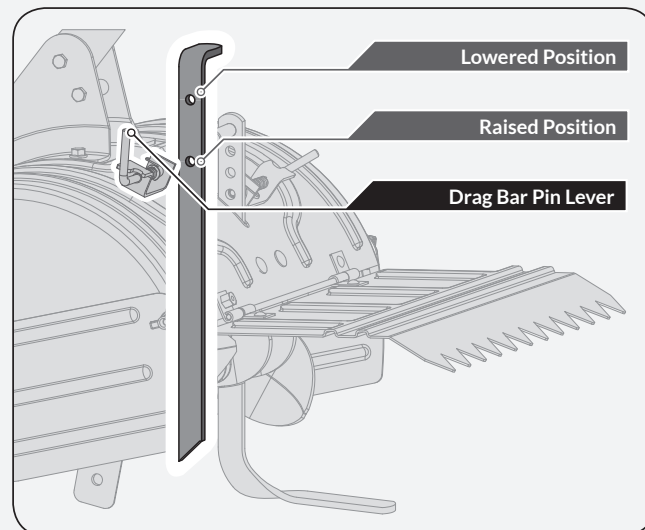

Figure 8
The drag stake (see **Figure 8**) should be raised when tilling in the counter rotating (⬅️R➡️) till position. The drag stake should be lowered when tilling in the forward rotating (➡️F➡️) till position.
- Move both the depth stake pin lever and the drag stake pin lever to the unlock position (See **Figure 5a, Illustration 2 & Figure 8**). Hold the depth stake limiter to pull the depth stake
up for increasing tilling depth. Place depth stake pin in the hole of the depth stake to lock in position at desired depth. Lower drag stake to the "Lowered position" (See **Figure 8**) and lock it in position.